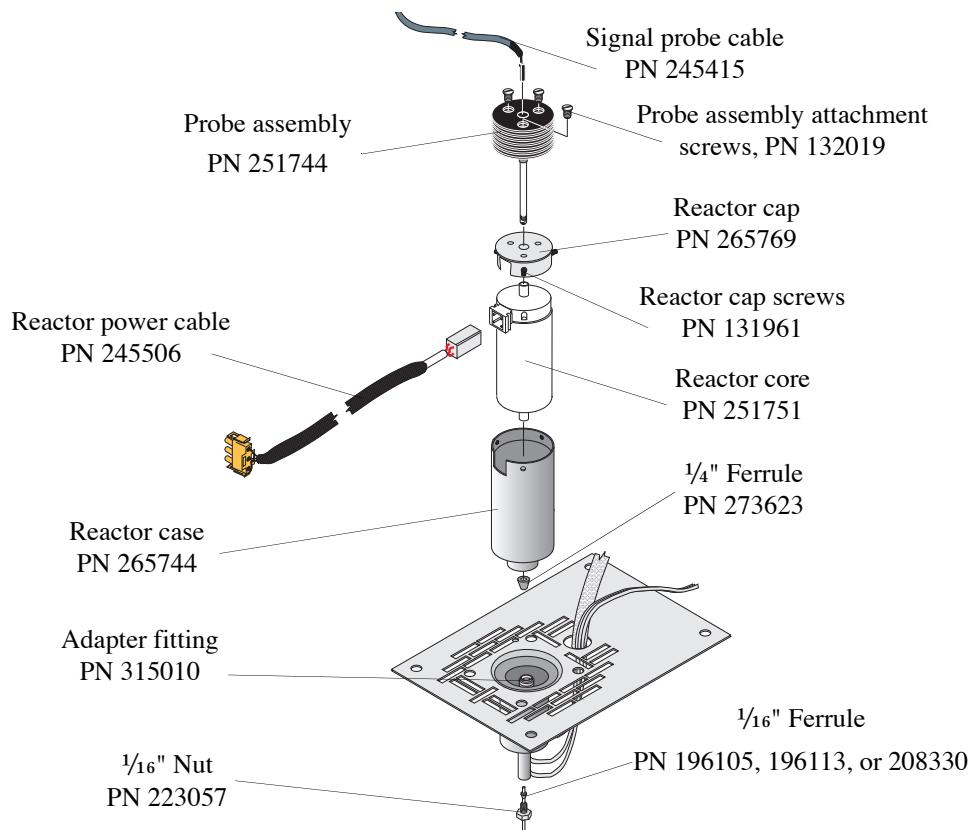

Figure 3.21. Model 5360 Heated XSD Detector Assembly
12. If not already attached, attach the probe assembly (PN 251744) by inserting it into the reactor cap (refer to Figure 3.21). Tighten the three mounting screws (PN 132019).